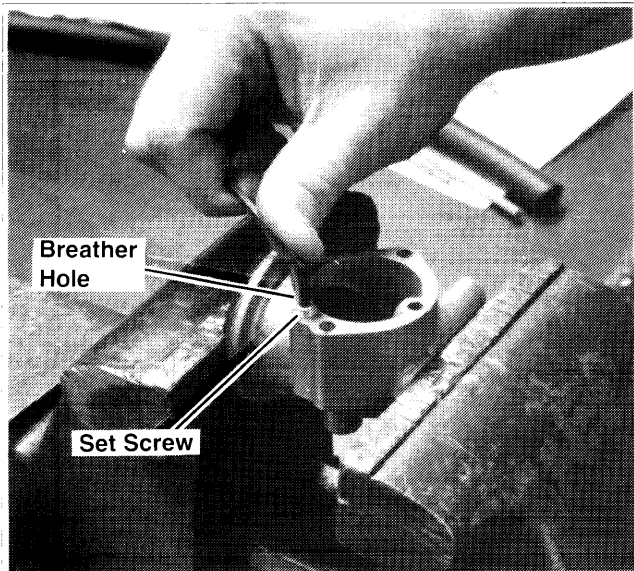

Figure 1. Plugging Adapter Breather Hole
1. The air cleaner adapter must be modified for use with LP fuel. To reuse the air cleaner adapter, the adapter bowl vent breather hole must be plugged to prevent unfiltered air from entering the engine. Apply Loctite 242 or similar compound to set screw (X-60-48) and install in breather hole. See Figure 1.